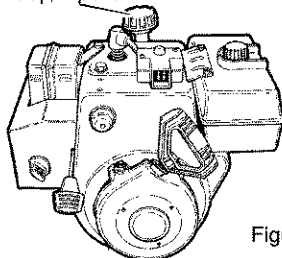

Figure 14
Check the crankcase oil level before starting the engine and after each five (5) hours of continuous use. See Figure 14. Add S.A.E. 5W30 motor oil as needed. Tighten fill cap/dipstick securely each time you check the oil level.